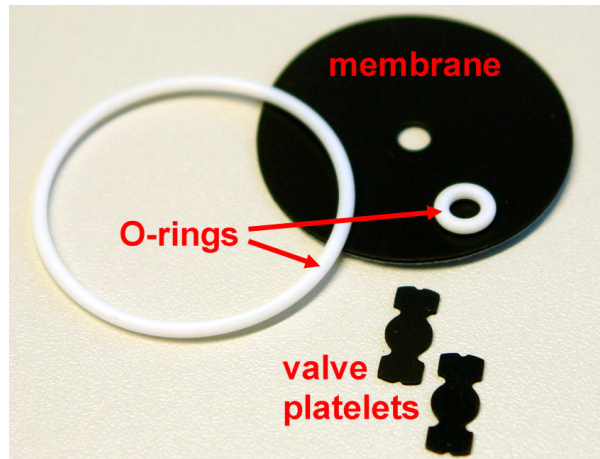

Fig. 2: SGP5-SPARE
- clean the membrane (Fig. 2), if necessary